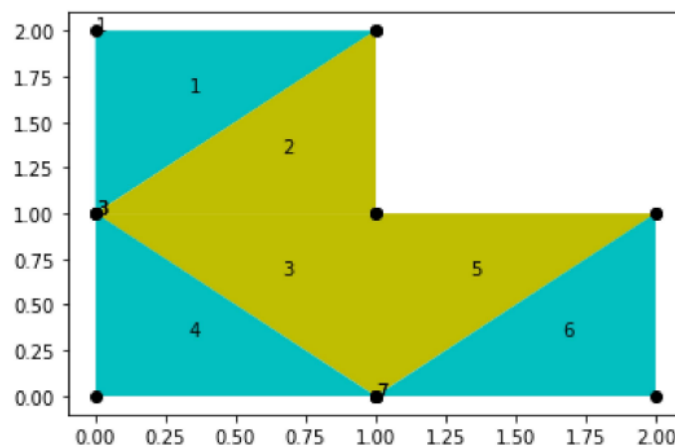

Fig. 2: FEM Model
i. Discretization: Dividing the given structure into finite element entities i.e., nodes and elements as shown in figure 2.